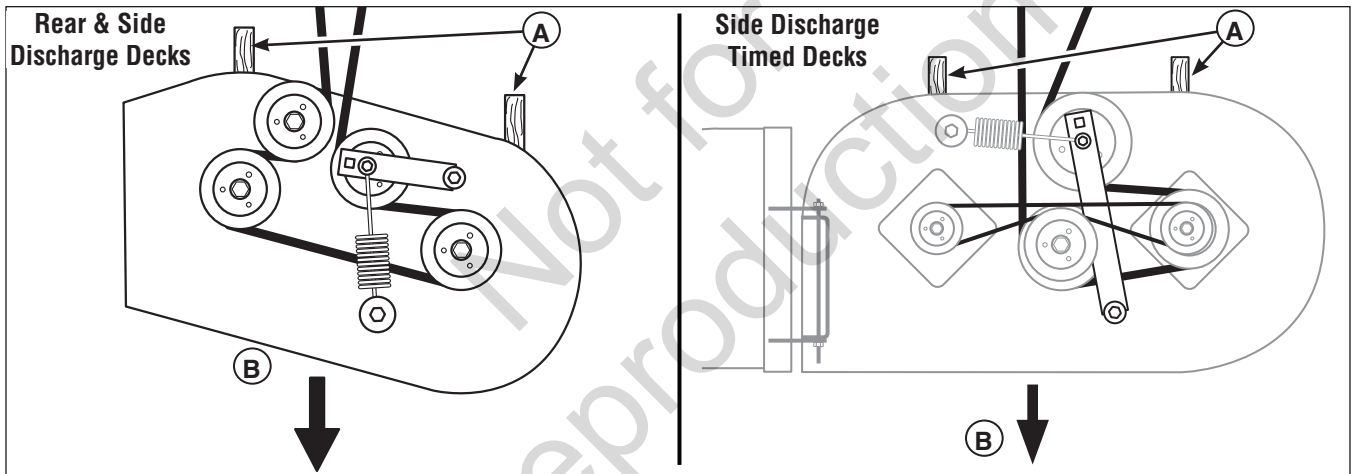

Figure 29. 2 x 4 Locations
4. Place 2 x 4 blocks under the rear of the mower deck with the 3-1/2" sides being vertical. See Figure 29.
5. Loosen the deck leveling hardware (B, Figure 29) on both sides of the machine.